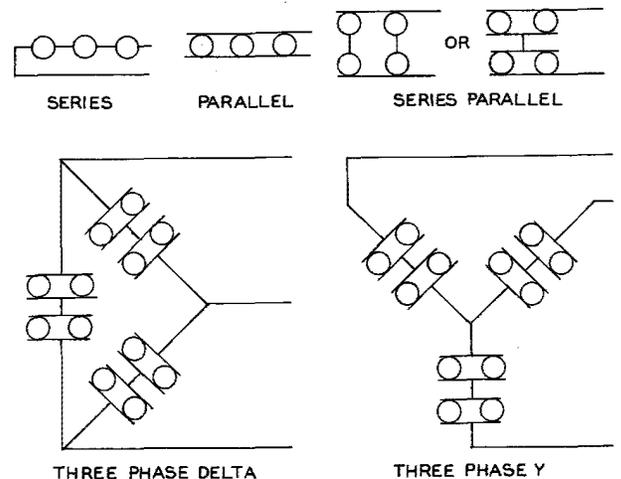

Fig. 9 - Schematic Connections
4.02 *Lamps or heaters* may be connected individually, or in parallel to increase the load, or in series when higher voltages are encountered or in series parallel to build up the load on higher voltages. Fig. 9 shows some schematic connections.
4.09 For series connection, units of the same rated voltage and wattage are generally used. Series circuits are connected in parallel to build up the load. As an example of series parallel connections, see Fig. 9, assume a heater-unit load consisting of 660-watt, 110-volt units is to be used for a 20-ampere, 160-volt output.